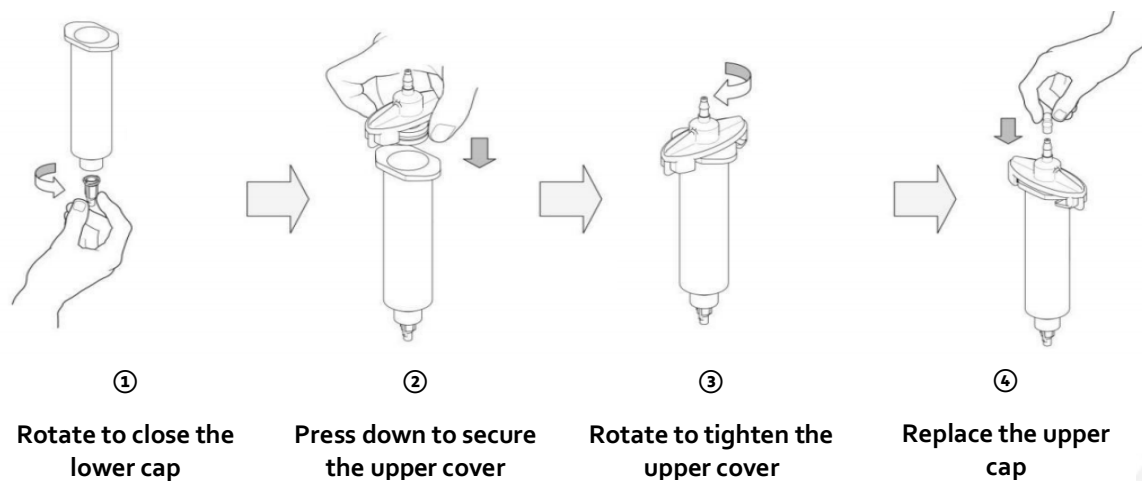

Figure 10
- Replace the top and bottom caps on the column after unloading (See Figure 10).
4. Replace the top and bottom caps on the column after unloading (See Figure 10).